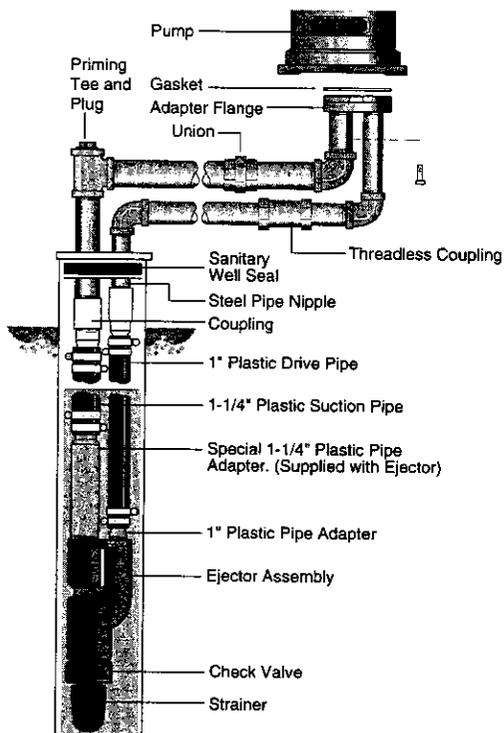

Figure 6 – Offset Installation Plastic Pipe Shown
See Figures 6, 7, and 8.
5. Using Teflon tape on male threads, install special plastic pipe adapter (supplied with ejector) by screwing adapter into 1-1/4" tapped hole in ejector body (see Figures 6 and 8, below).
9. Install sanitary well seal on top of well casing; use steel nipple through well seal as shown in Figure 6.